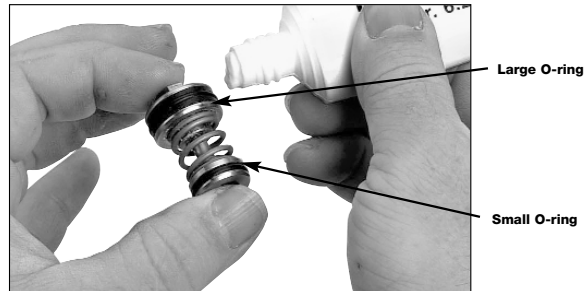

figure 4
6. Grease only large O-rings with lithium grease. (figure 4)